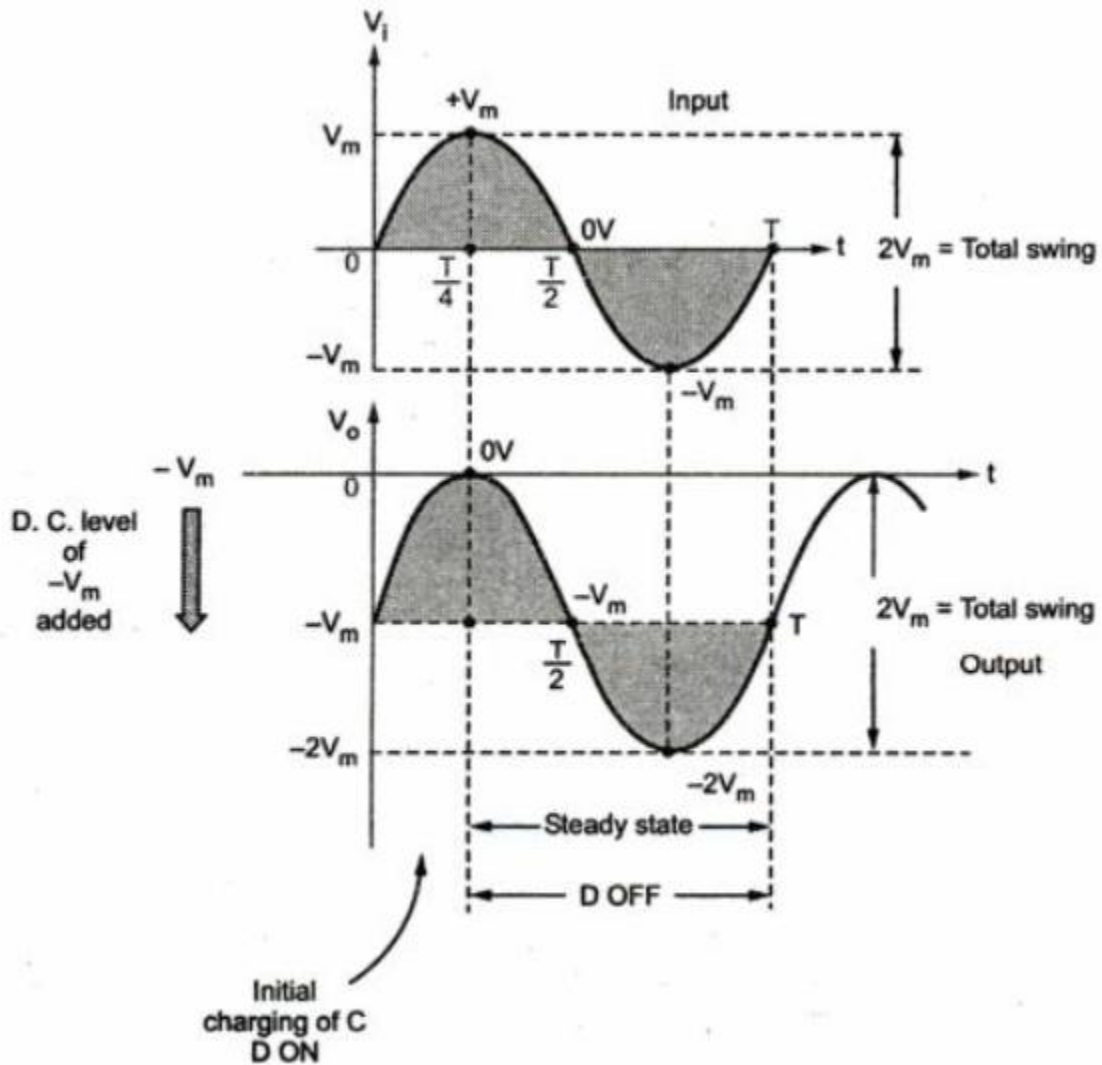

Fig. 1.66 Negative clamper waveforms
- Assuming ideal diode, the input and output waveforms are shown in the Fig. 1.66.